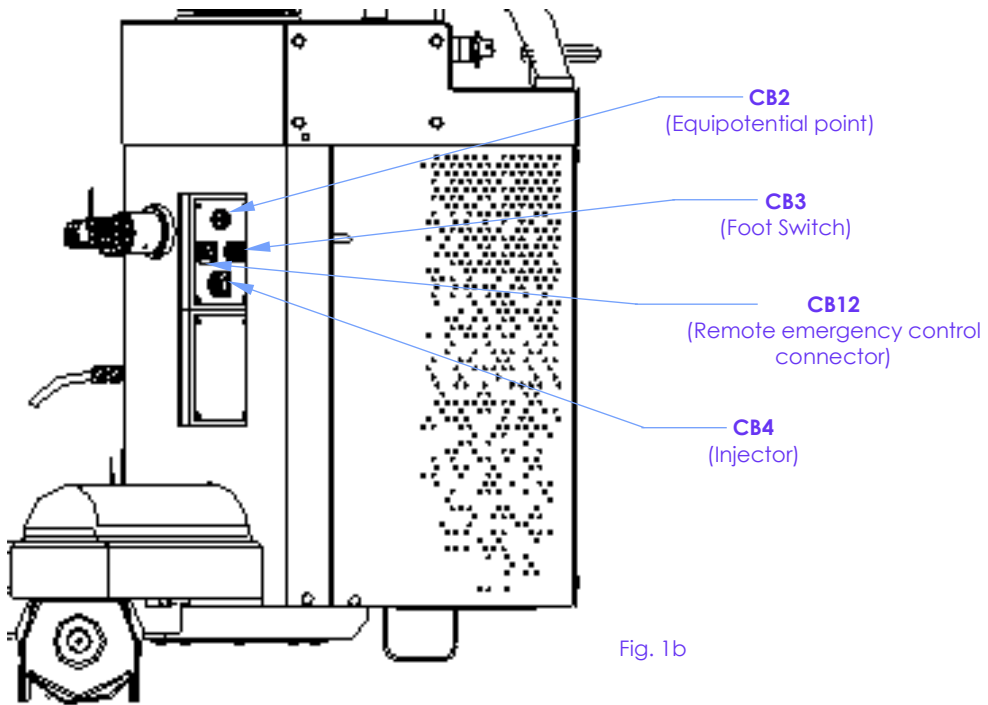

Fig. 1b
- Connect the footswitch cable to connector **CB3** on the stand (see previous Fig. 1b).
- Connect the injector cable to connector **CB4** on the stand (see previous Fig. 1b)